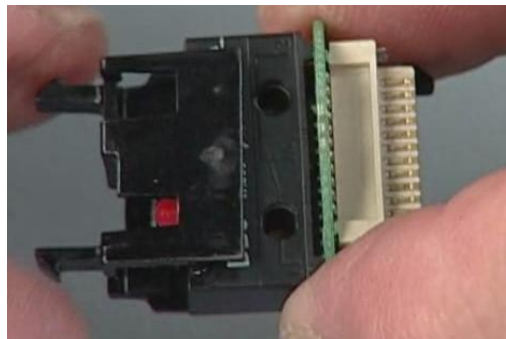

Figure 14
- The next step is to install the Conan Board Micro Switch Assembly into the bezel. It is important to note that the Conan board and micro switch are one complete component. So if this component were ever to fail you would need to remove the locking clips and install it onto the replacement Conan Board Micro Switch Assembly. See Figure 14.